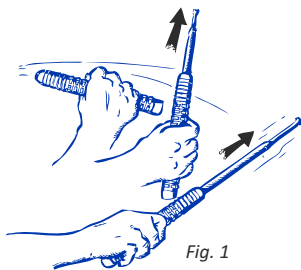

Fig. 1
2. **Flick the baton** slightly downward, in a horizontal direction or slightly upward with sufficient speed for the telescopic tubes to slide out and hold firmly open – see Fig. 1. The faster you open the baton, the stronger it holds in the open position – but it could then also be more difficult to close it.